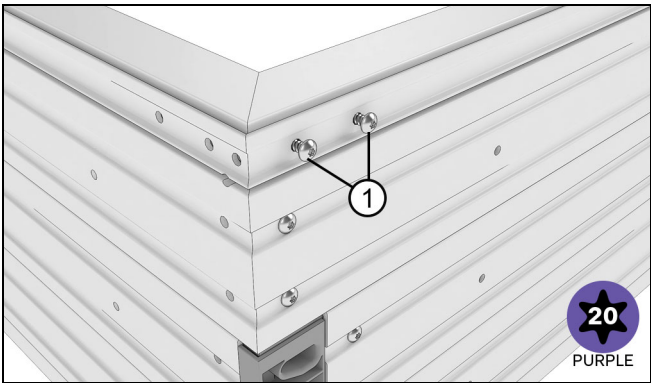

Figure 44
3. Slightly loosen the exterior screws holding the key to the jamb with a T20 Torx® head bit. This will allow the key to align with the head jamb holes. See Figure 44.